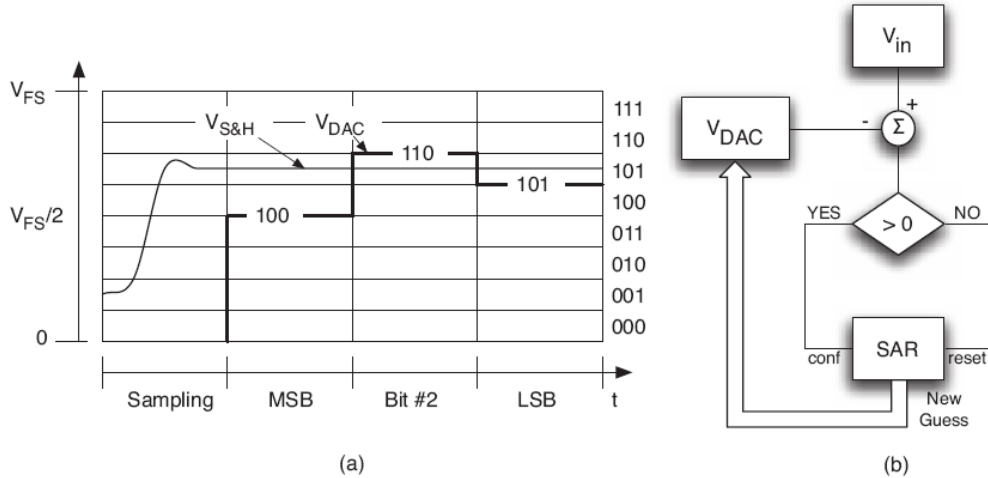

Figure 4.28. Timing (a) and flow diagram (b) of the successive approximation technique.
- For a given dynamic range 0 to V_{FS} the MSB distinguishes between input signals below or above $V_{FS} / 2$. Comparing the input with $V_{FS} / 2$ obtains the first bit as seen in Fig. 4.28 a)